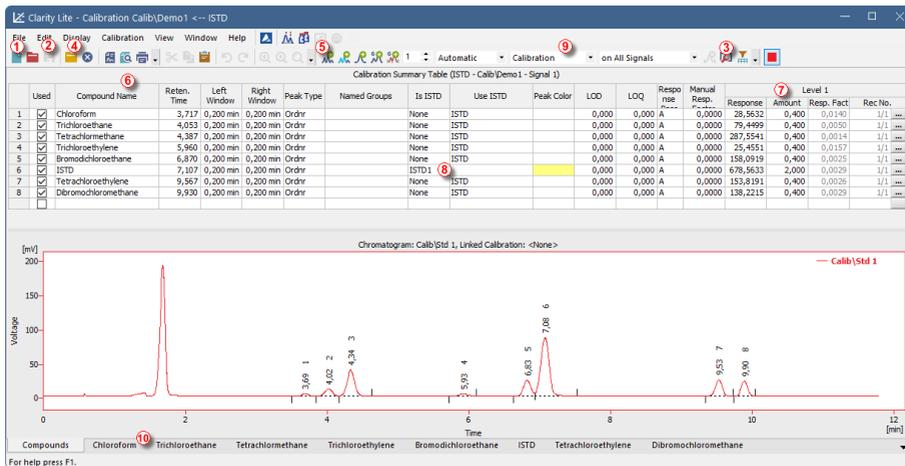

Fig. 12: The Calibration window - loaded standard
- Use the **Open Standard** icon (yellow) (4) to open the **STD 1.PRM** data file. The lower part of the **Calibration** window now displays the chromatogram of the standard.
- Use the **Add All** icon (blue) (5) to add all identified peaks to the Calibration Summary Table. The Table appears in the **Calibration** window, ready to be completed as shown on **Fig. 12** on pg. 17.
- As demonstrated in the Calibration Summary Table and the Chromatogram, individual peaks are now identified according to their retention times only. To label the peaks, click and edit the fields in the **Compound Name** column (6) to the names shown on **Fig. 12** on pg. 17.
- Fill the **Amount** column (7) with the concentration of the particular compounds. In this standard mixture, all compounds except for the peak number 6 (ISTD) have the amount of **0.4**.